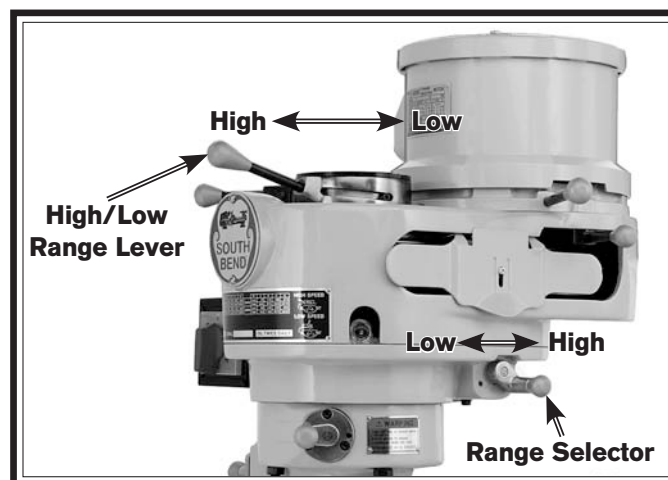

Figure 33. Model SB1025/SB1026 spindle speed range controls.
3. **Low Spindle Speed Range:** Pull the knob of the spindle speed range selector (see **Figure 33**) out to disengage the detent pin, rotate the selector clockwise to the front position, then release the knob.
5. Move the high/low range lever back to the right side of the head (see **Figure 33**).